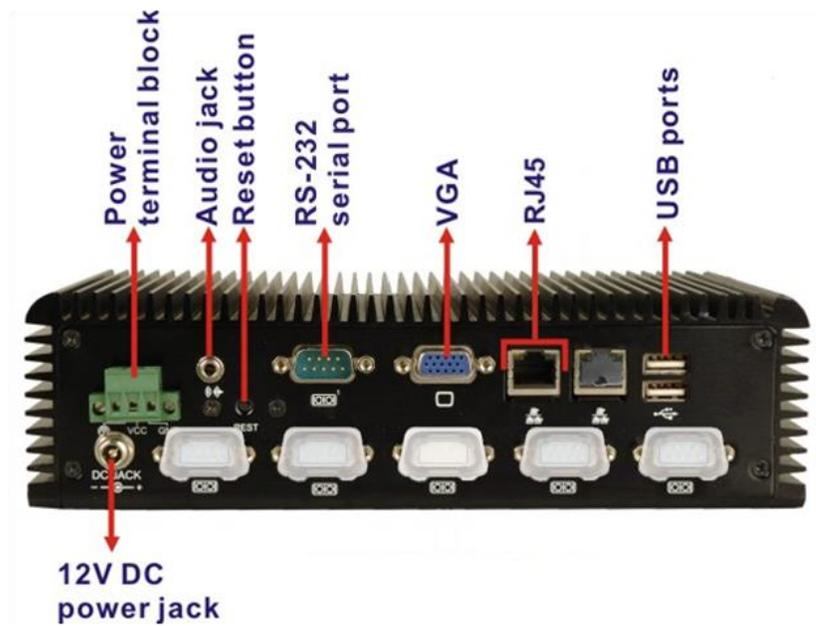
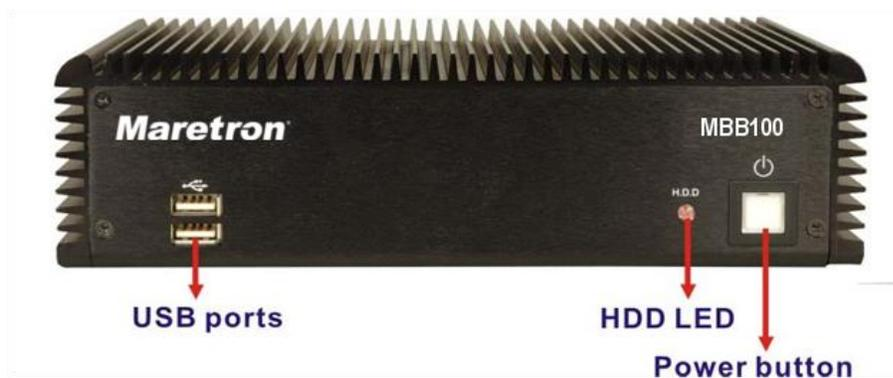

Figure 4 - MBB100 Rear Panel Connections
Figure 5 – MBB100 Front Panel
Most I/O interface connections of the MBB100 are found on rear panel (see Figure 4). The I/O interface panel located on the rear of the MBB100 has the following I/O interface connectors:
The I/O interface panel located on the front of the MBB100 (see Figure 5) has two USB 2.0 interface connectors.
Step 1: The locations of the USB connectors are shown in Figure 4 and Figure 5.
When the MBB100 is connected to an appropriate power source, you can use the power switch located on the front panel (see Figure 5) to turn the MBB100 on or off. If the MBB100 is turned on, then the LED found behind the power button will be illuminated blue. If the power switch is pushed to power down the DSM800, the LED is turned off.